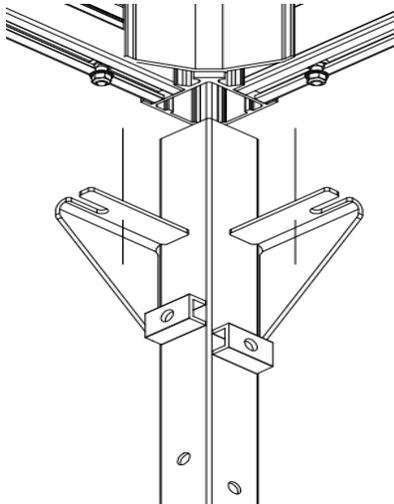

FIGURE 1
1. To install corner bumper; the leg of the dock must be removed before installation. The dock leg is removed by loosening the two brass nuts, that secure the leg secure to the dock rail. Once the brass nuts are loose, slide the nuts and bolts out of the leg slot and the leg should drop out of place (figure 1).